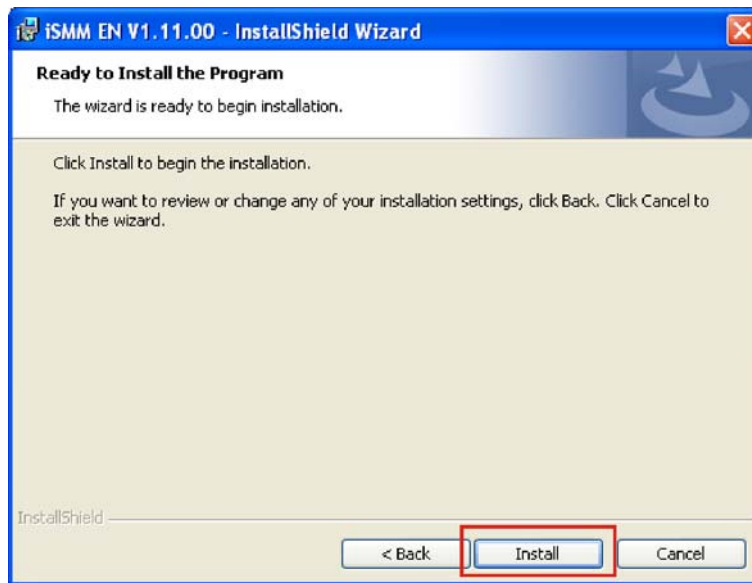

Figure 6-35: iSMM Installation Confirmation
Step 18: The **Installation Confirmation** screen appears. (Figure 6-35)
Step 19: Click **INSTALL** to begin installing the drivers. (Figure 6-35)